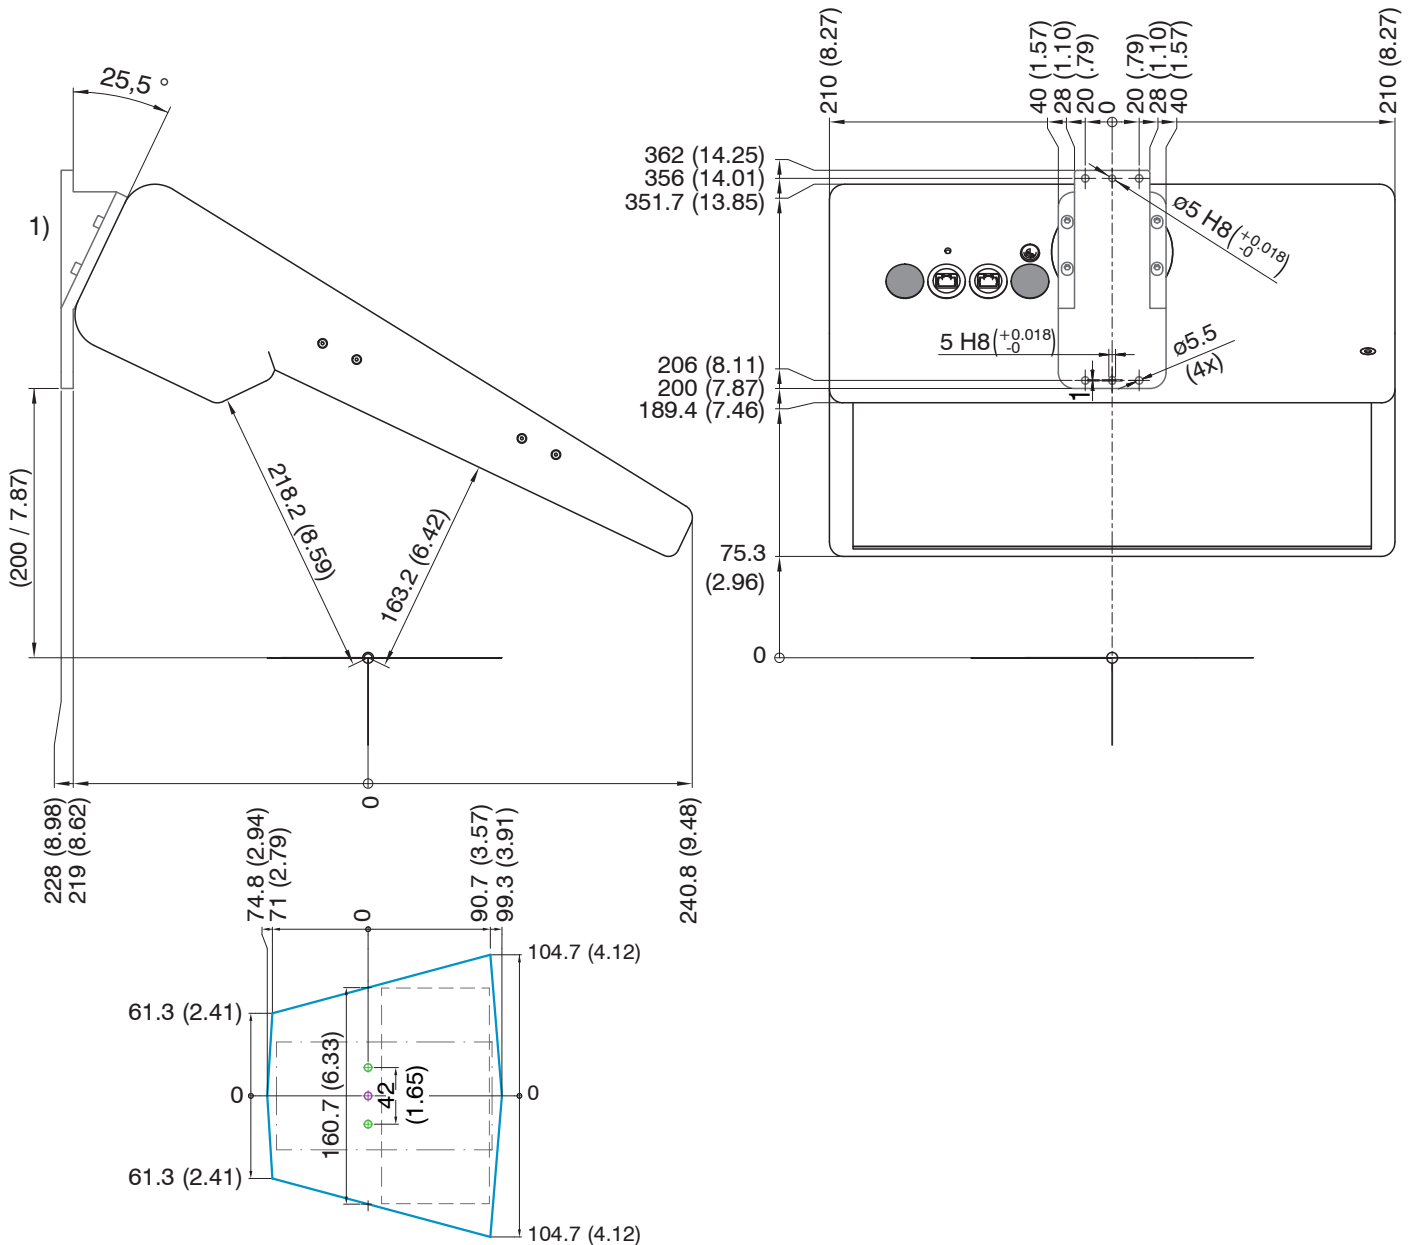

Fig. 2 Dimensional drawing of RCS130-160 measuring system with measuring window
1) Size specifications refer to the reference plane. Trapezoidal measuring field - the medium width is specified. Exact dimensions, see Fig. 2.
The dimensions of the measuring fields that the target must be located within can be found in the dimensional drawing, see Fig. 2.